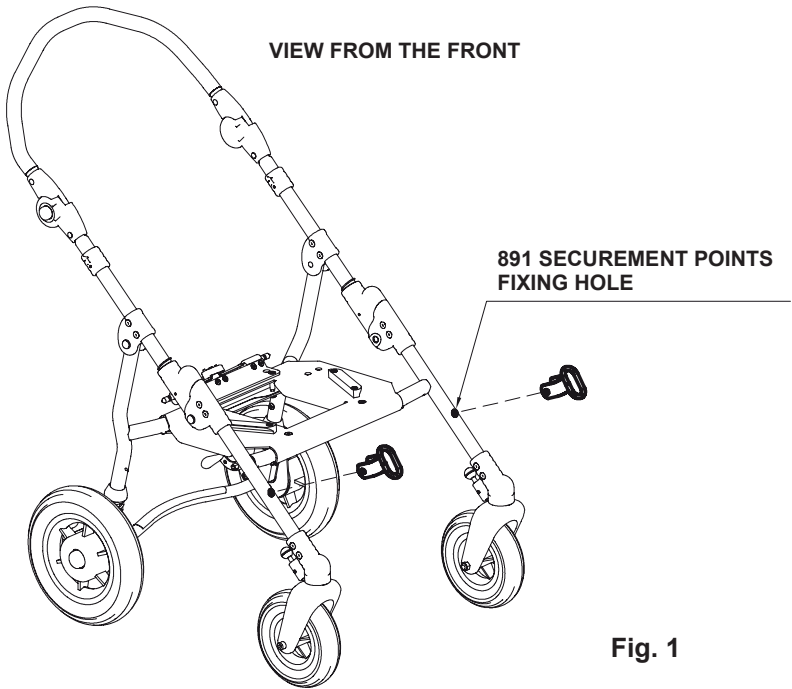

Fig. 1
- **THE STROLLER MUST BE ANCHORED TO THE MOTOR VEHICLE WITH THE BACKREST AND THE LEGREST IN THE UPRIGHT POSITION by:** 1) a four-point strap-type tie down system that complies with ISO 10542, supplied by the vehicle and 2) our accessory 891 - set of 4 tie-down hooks (see fig. 1 and 2, page 13; fig. 3, page 14 and fig. 4, page 15)